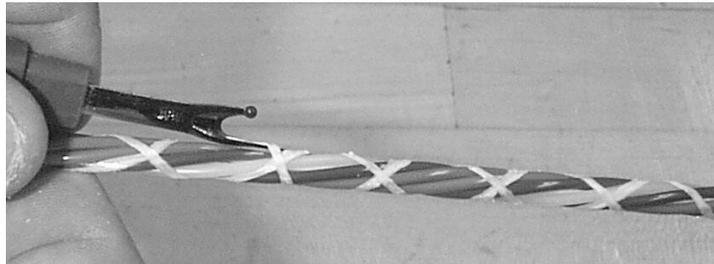

Figure 28 – Cut and remove the binder threads from the buffer tubes.
5.15 Unwrap the binder threads from the buffer tubes and cut them flush with the outer jacket (Figure 28).